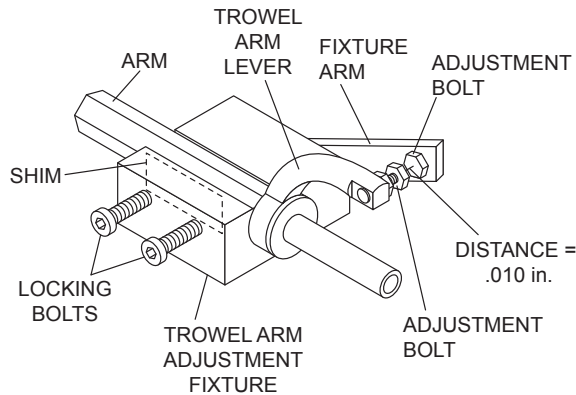

Figure 50. Trowel Arm Adjustment Fixture Components
3. Unscrew the locking bolts on the adjustment tool and place the trowel arm into the fixture channel as shown in Figure 50. A thin shim may be required to cover the blade holes on the trowel arm. Make sure to align the trowel adjustment bolt with the fixture adjustment bolt.
5. Adjust the bolt “distance” shown in Figure 50 to match one of the arms. The other arms will be adjusted to match this distance.